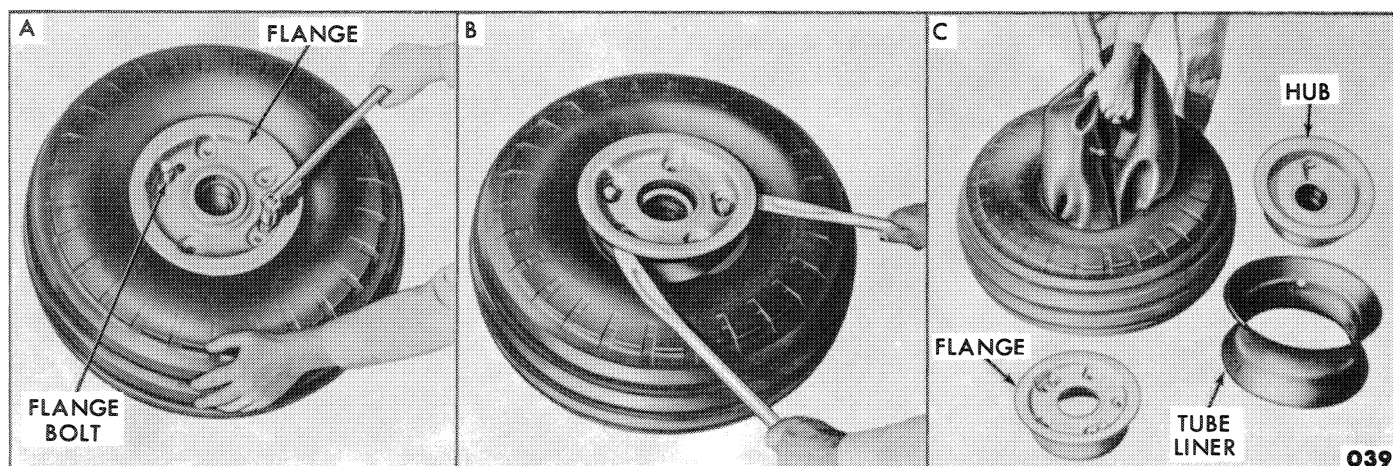

Figure 20—Removing Tire from Single Front Wheel
6. Remove the five bolts from the wheel and thread two of the bolts in the opposite side of the wheel. Turn the bolts in until the flange is free of the hub as shown in "A," Figure 20.
8. Lift the tire off the hub and remove the tube liner and tube as shown in "C," Figure 20.